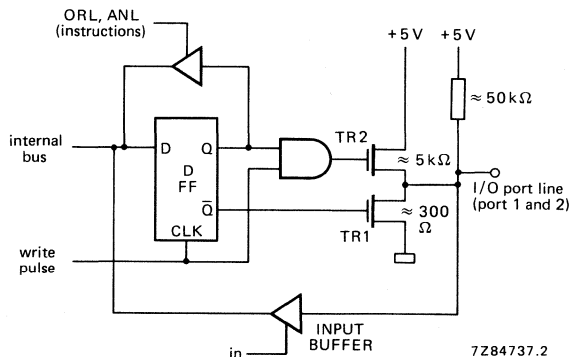

Fig. 8 Quasi-bidirectional port structure.
**Ports 1 and 2** (see Fig. 8)